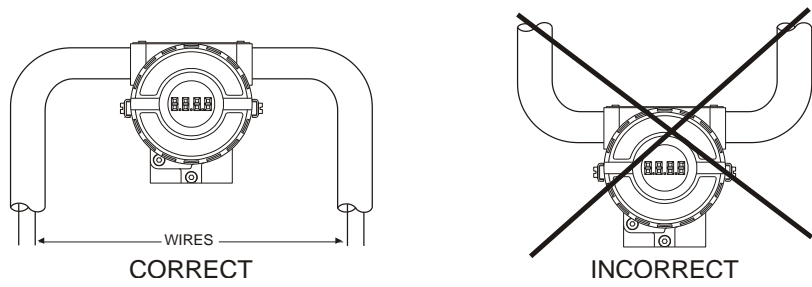

Figure 1.6 - Conduit Installation
**Test** and **Communication terminals** allow, respectively, to measure the current in the 4 - 20 mA loop, without opening it, and to communicate with the transmitter. To measure it, connect a multimeter in the mA scale in the "-" and "+" terminals, and to communicate, use a **HART** configurator in the "**COMM**" and "-" terminals. The wiring block has screws on which fork or ring-type terminals can be fastened. See Figure 1.6.
The Figure 1.6 shows the correct installation of the conduit, to avoid penetration of water, or other substance, which may cause malfunctioning of the equipment.